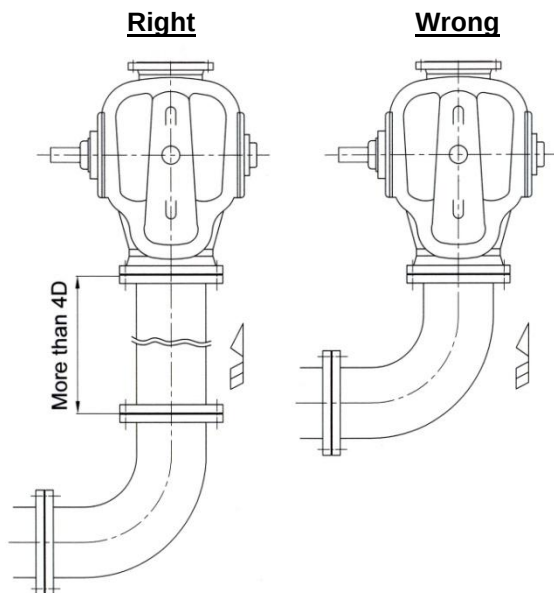

Fig. 2
- (1) As suction discharge pipe load applied to the pump causes eccentricity, both pipes should be provided with adequate support.
- (2) Minimum number of suction elbows with bend radius as large as possible may be installed at some distance from pump inlet (Fig. 2)